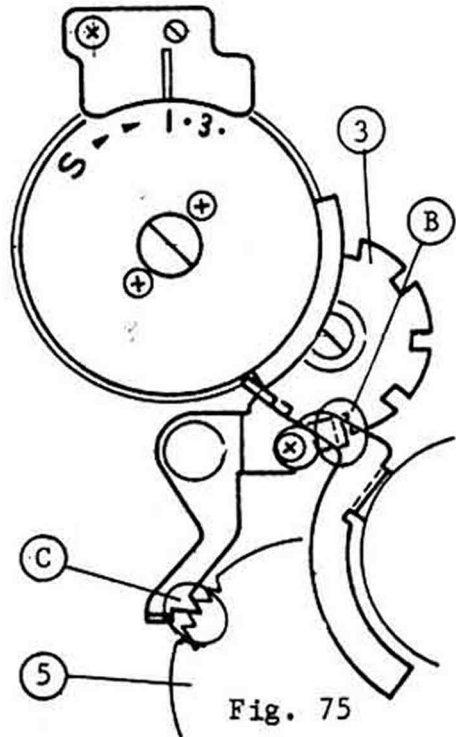

Fig. 75
- 2) When the film counter reaches to No. 1, the (A)-Protrusion passes over. (B)-end of the SLS15842 Stop lever gets into (3)-Film counter dividing device and the other end (C)-pawl gets into between teeth of the F.clutch wheel as shown in Fig. 75. At this time the SLS1474T1 Clutch is detached from the SLS14841 Ratchet gear so that film transport is stopped.